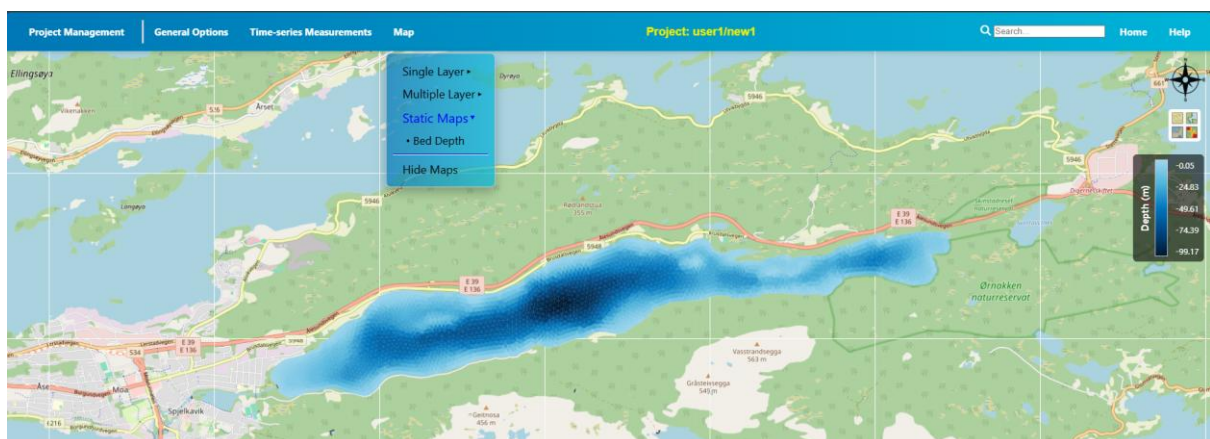

Figure 5.13. Bed depth map
- The option “Static” allows user to visualize a static map. One example of bed depth map is shown in Figure 5.13.